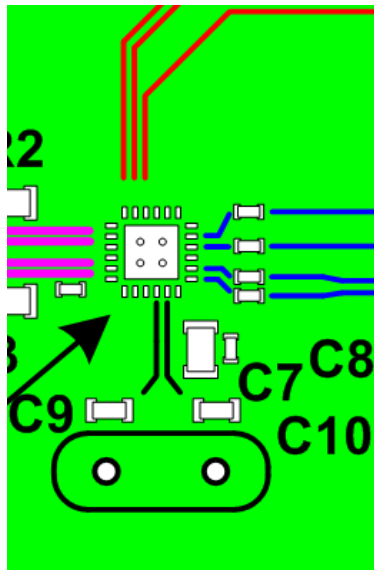

Figure No. 4
1. The routing for the crystal or clock circuitry should be kept as small as possible and as short as possible. Refer to Figure No. 4 below for details.